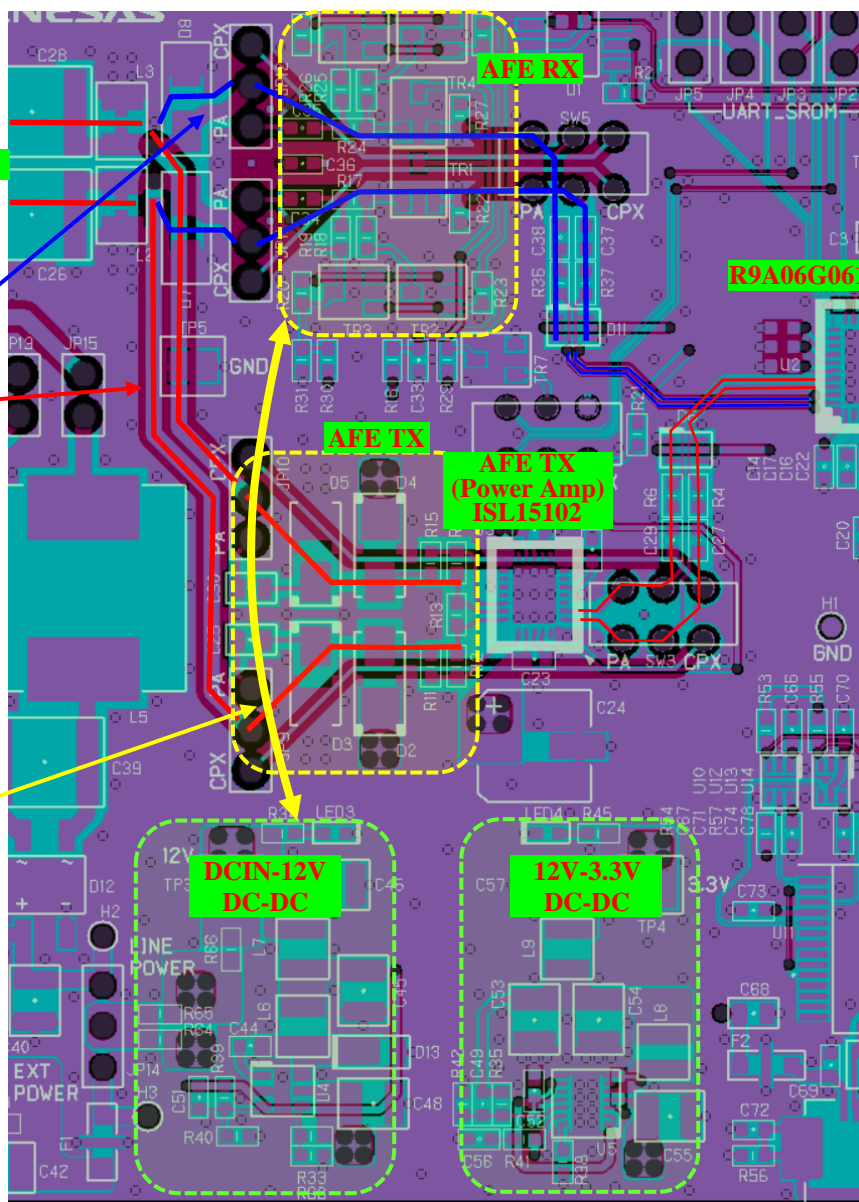

Figure 3-11 Wiring route example between R9A06G061-AFE TX/RX-DC IN
- The RX signal lines between DC IN/PLC signal terminals - AFE RX - R9A06G061 are differential signals, so arrange the components symmetrically, and wire them with the same length as much as possible and the shortest and symmetrical wiring in a well-balanced manner. However, if there is a risk of interference with the power circuit, give priority to increasing the distance (at least 3 cm) between the RX signal line and the power circuit. (Wiring route example is shown in Figure 3-11)